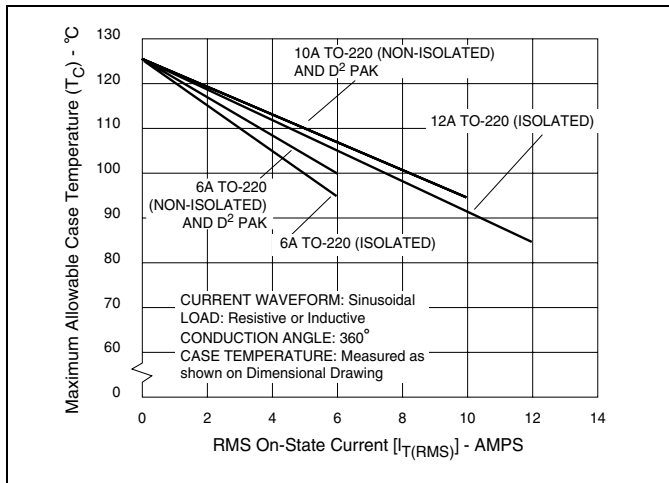
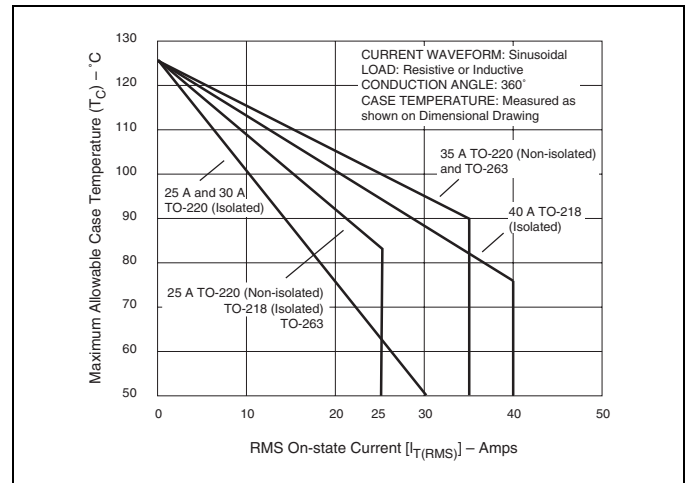
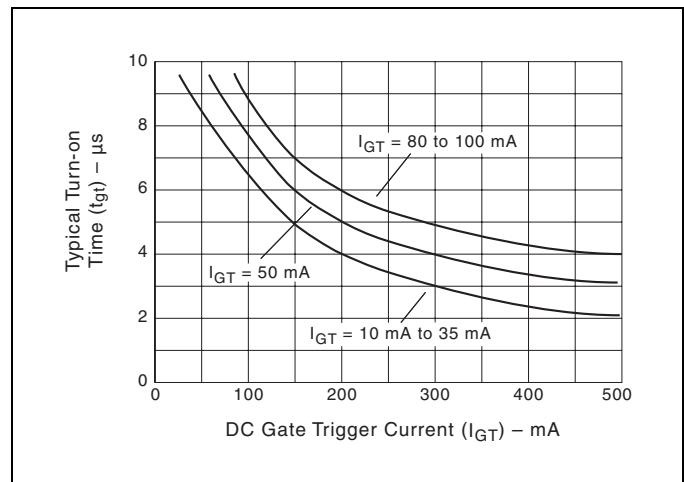

Figure E4.1 Maximum Allowable Case Temperature versus On-state Current (6 A to 12 A)
Figure E4.4 Maximum Allowable Case Temperature versus On-state Current (25 A to 40 A)
Figure E4.12 Turn-on Time versus Gate Trigger Current (Typical)
- See Figure E4.1 through Figure E4.4 for current rating at specific operating temperature and Figure 4.16 for free air rating (no heat sink).
- (10) See Figure E4.12 for  $t_{gt}$  versus  $I_{GT}$ .
- (11) See package outlines for lead form configurations. When ordering special lead forming, add type number as suffix to part number.
- (12) Initial on-state current = 400 mA dc for 16 A to 40 A devices and 100 mA for 6 A to 12 A devices.
- (13) See Figure E4.1 through Figure E4.4 for maximum allowable case temperature at maximum rated current.
- (14) Pulse width  $\leq 10 \mu s$ ;  $I_{GT} \leq I_{GTM}$
- (15) For 6 A to 12 A devices,  $R_L = 60 \Omega$ ; 16 A and above,  $R_L = 30 \Omega$
- (16) 40 A pin terminal leads on K package can run 100 °C to 125 °C.
- (17) Alternistor does not turn on in Quadrant IV.
- (18)  $T_C = T_J$  for test conditions in off state
- (19)  $I_{GT} = 200$  mA for 6 A to 12 A devices and 500 mA for 16 A to 40 A devices with gate pulse having rise time of  $\leq 0.1 \mu s$ .
- (20) Minimum non-trigger  $V_{GT}$  at 125 °C is 0.2 V.